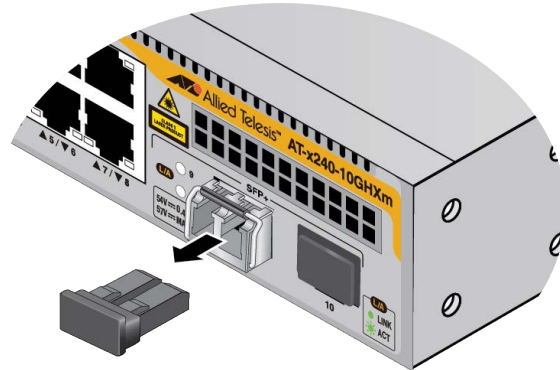

Figure 56. Removing the Dust Cover from an SFP or SFP+ Transceiver
5. Remove the dust cover from the transceiver. See Figure 56.
1. If the SFP+ port has a dust cover, remove it. See Figure 56 on page 90.